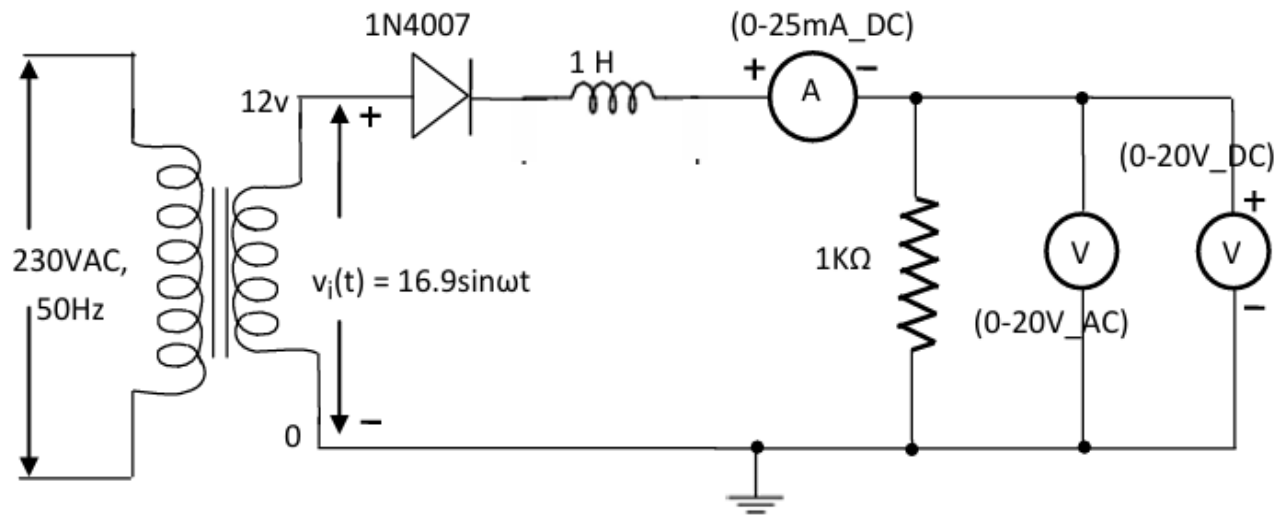

Fig.3 Half-Wave Rectifier with Inductor filter
1. Connect the inductor according to the diagram in Fig.3.